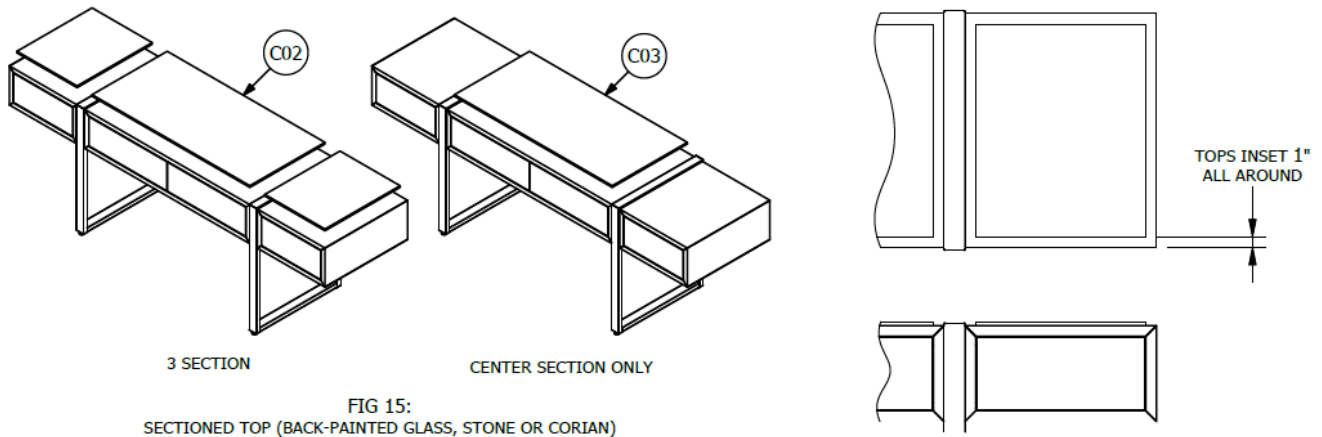

FIG 15:
1. Using small dabs of Silicone (Y01) around the perimeter, secure all Top Sections (C02) centered on each Case and inset 1" on all sides. See Figure 15.
1. Using small dabs of Silicone (Y01) around the perimeter, secure Center Top Section (C03) centered on Center Case and inset 1" on all sides. See Figure 15.